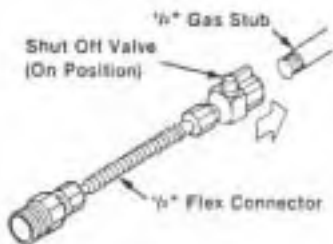

Figure 11
Step 2: Attach $\frac{1}{2}$ " flex connector with shut off valve to the $\frac{1}{2}$ " gas supply stub, using a wrench and pipe joint compound. Tighten securely (Figure 11)